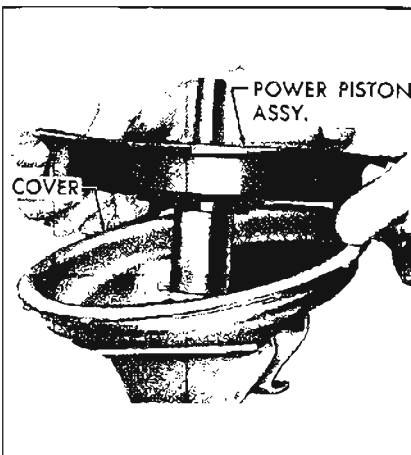

Figure 9-22—Removing Power Piston
9. Remove power piston assembly by lifting straight up slowly and lay it aside on a clean smooth surface. See Figure 9-22.